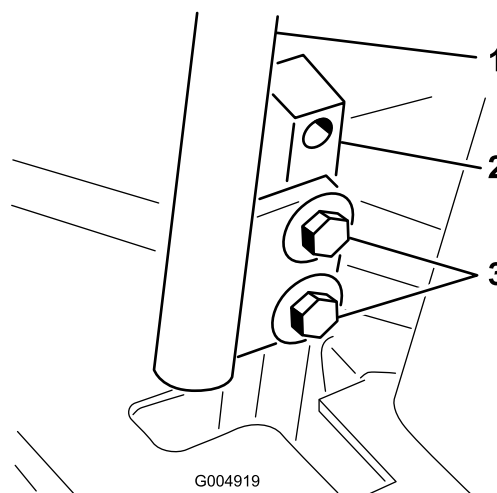

Figure 44
3. Loosen the bolts securing the control levers (Figure 44)